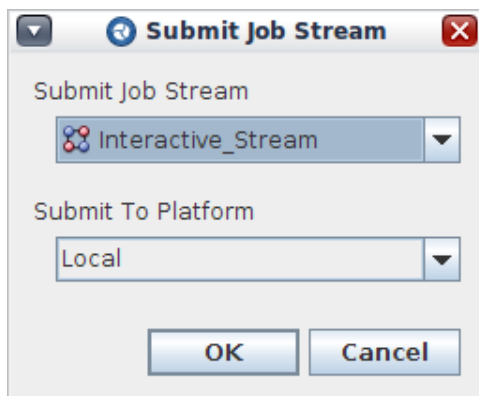

Figure 5.33. Submit Job Stream Dialog
- Select "**Submit Job...**" from the **Tools** menu. This opens the dialog shown in Figure 5.33, "**Submit Job Stream Dialog**". This dialog allows the user to select both the stream to submit and the platform to which it will be submitted. Pressing the **OK** button submits the stream.